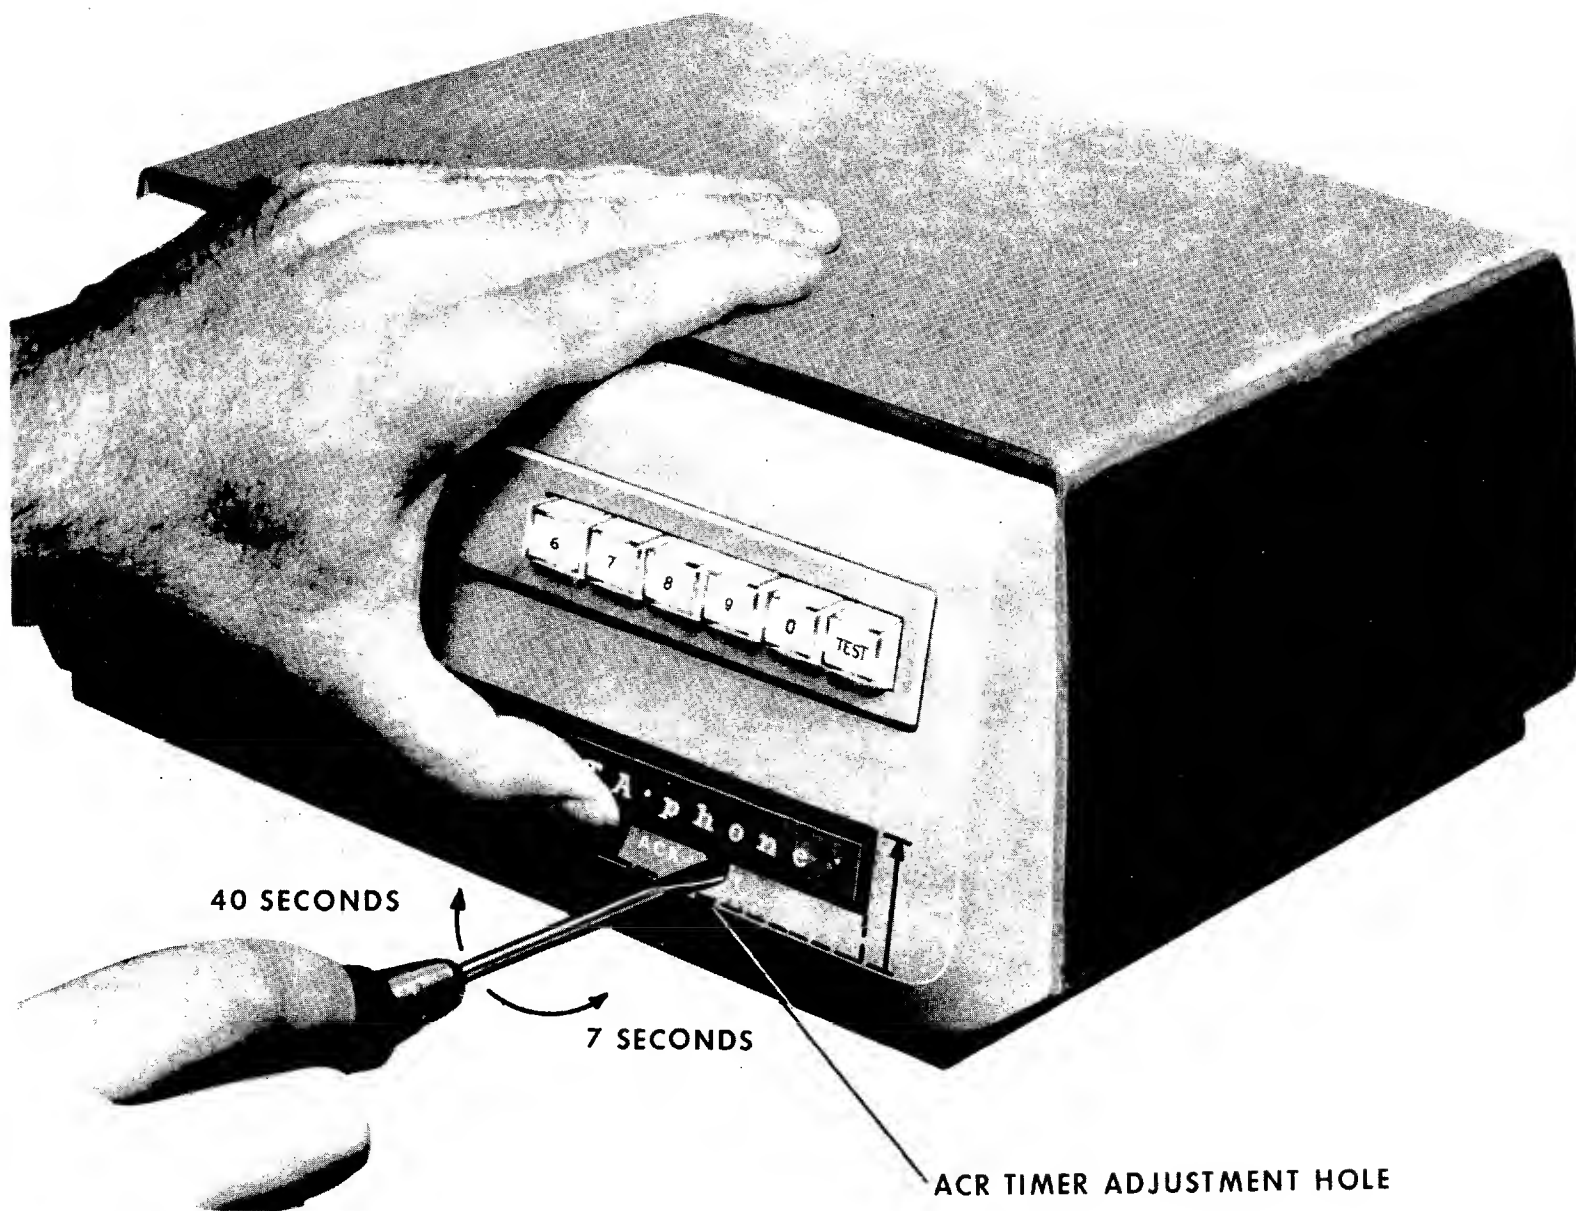

FIG. 3
5.21 The ACR (Abandon Call and Retry) timer starts whenever CRQ (Call Request) is turned ON. The time-out interval may be set for a minimum period of 7, 10, 15, 25 or 40 seconds by means of a screwdriver operated switch (see Figure 3). For most telephone switched network operations, a period of 25 or 40 seconds is recommended to allow sufficient time for the call to go to completion.